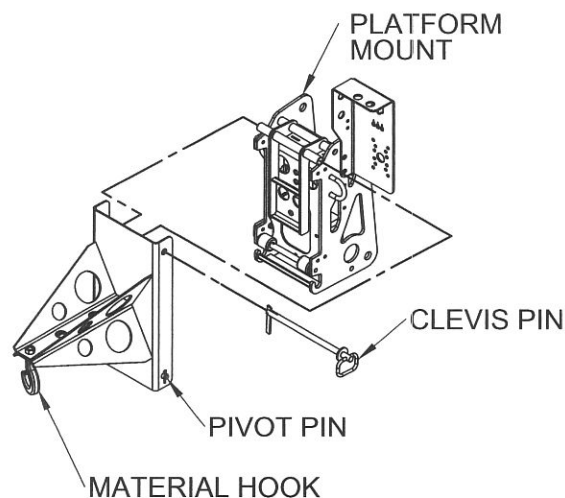

Figure 7-6. Material Lifting Hook Installation
- Attach the material lifting hook to the mounting bracket on the **PLATFORM MOUNT** and re-insert the **CLEVIS PIN**. Refer to Figure 7-6.